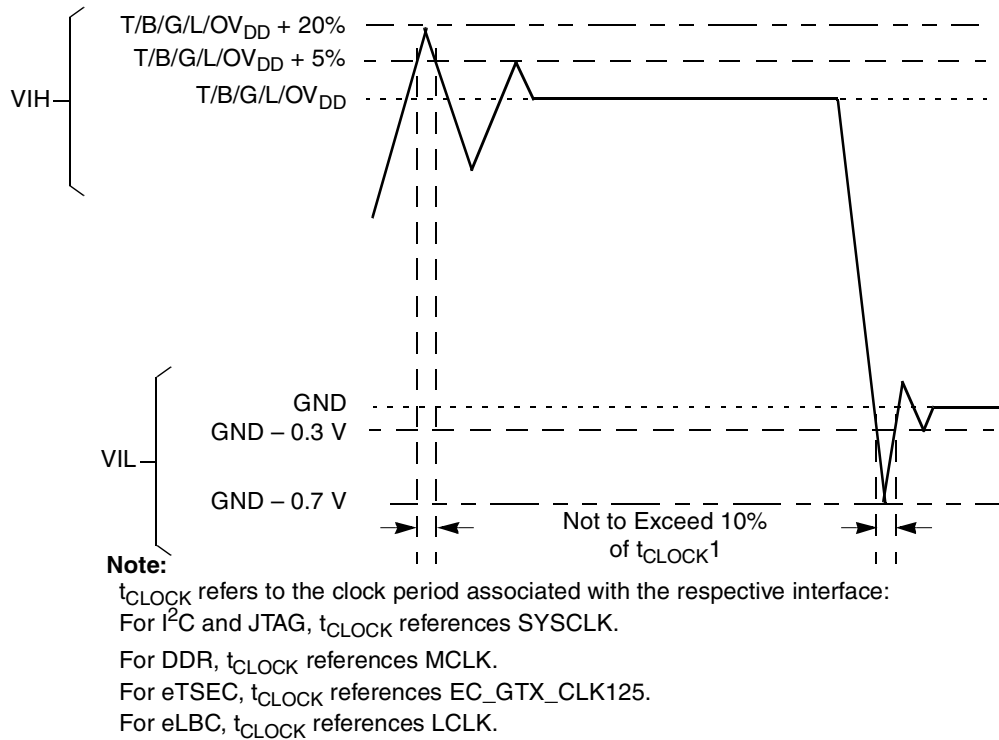

Figure 2. Overshoot/Undershoot Voltage for  $TV_{\text{DD}}/BV_{\text{DD}}/GV_{\text{DD}}/LV_{\text{DD}}/OV_{\text{DD}}$
- (M,L,O)VIN may overshoot/undershoot to a voltage and for a maximum duration as shown in Figure 2.
Figure 2 shows the overshoot and undershoot voltages at the interfaces of the MPC8572E.